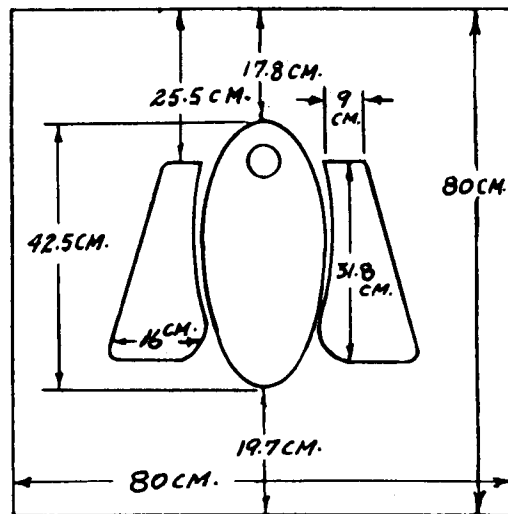

FIGURE 6 PRIVY SLAB OUTLINE
1. A wooden form for shaping the slab (see Figure 6).
2. Cut out of the platform a hole 10cm x 33cm (4" x 13") for the hooks of the bowl core to extend into. The back of the hole should be 28cm (11") from the back of the platform. To determine the location of this hole, draw the outline of the bottom of the bowl on the platform, with the back of the bowl outline 23cm (9") from the back of the platform. (See Figure 6.) The back of the hole should be 28cm (11") from the back of the platform.